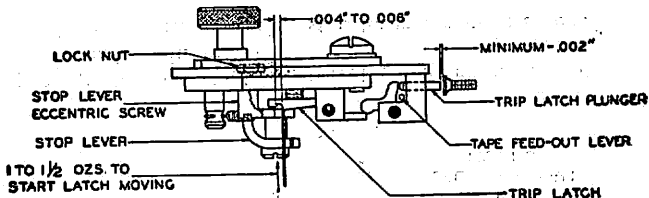
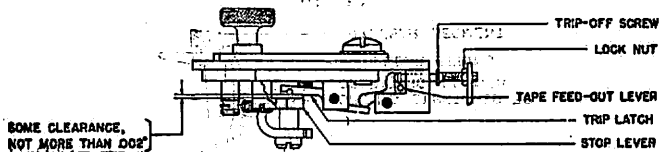

Fig. 12
Fig. 14
4.22 **Stop lever** shall overtravel trip latch min. .004", max. .006" as in Fig. 12.
4.23 Trip latch spring pressure shall be min. 1 oz., max. 1-1/2 ozs. measured as in Fig. 12 when range finder assembly is held horizontal.
4.25 Armature Trip-off Screw: Stop lever shall clear its trip latch by max. .002" when armature is unoperated and stopping edge of the lever is directly opposite the trip latch latching surface (Fig. 14); and the trip latch plunger shall have min. .002" end play as in Fig. 12 when the armature is operated and the stop lever is clear of the trip latch latching surface.